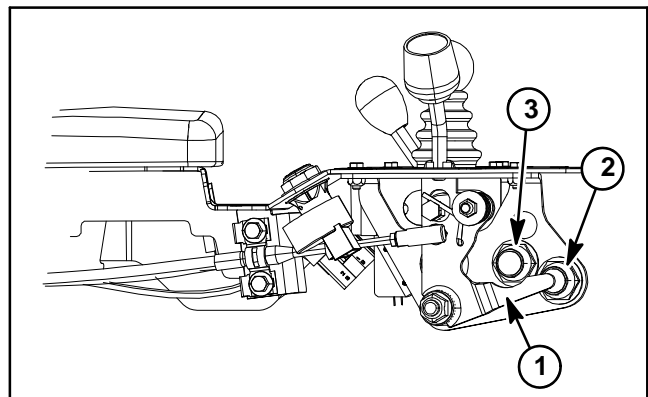

Figure 42
The neutral and mow switches are normally open proximity switches that mount to the console assembly (Fig. 42). The sensing plate for these switches is a tab on the functional control lever. The Toro Electronic Controller (TEC) monitors the operation of the neutral and mow switches.
3. Remove console cover from console assembly to gain access to neutral and mow switches (see Control Console Disassembly in the Service and Repairs section of Chapter 7 - Chassis). Locate switch that is to be tested (Fig. 42).